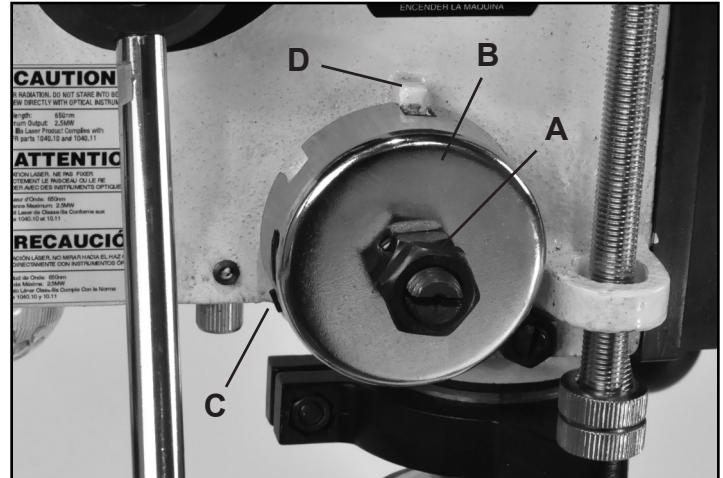

FIG. 22
The Chuck will automatically return upward to its original starting position when the operating handle is released. The Return Spring Mechanism, FIG. 22, has been preset at the factory and should not require any adjustments. However, should the spring tension decline and need adjustment, follow these steps;
2. Loosen the Spring Cover Nuts (#47, FIG. 22, A), but **DO NOT REMOVE** the nuts from the threaded pin.
3. Carefully pull out the Spring Cover (#48, Fig. 22, B) slightly, and keep a firm grasp on it - **DO NOT LET THE COVER SPIN** as it keeps the spring from unwinding. Also, **DO NOT** let the spring end (C) disengage from its notch in the spring cover!
4. Pull out the cover just enough so that the notch in the cover clears the nub on the head casting (D).